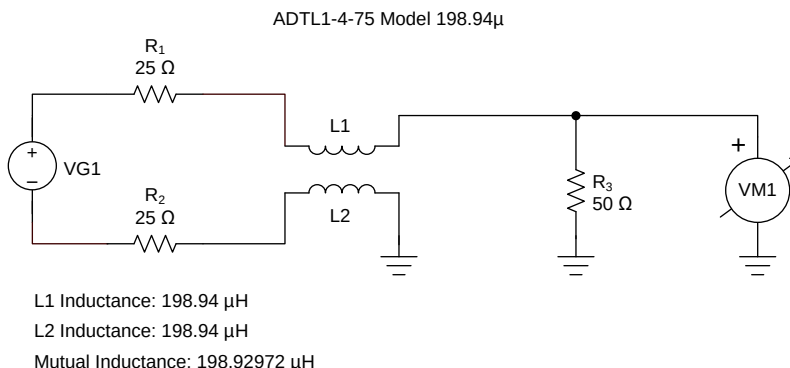
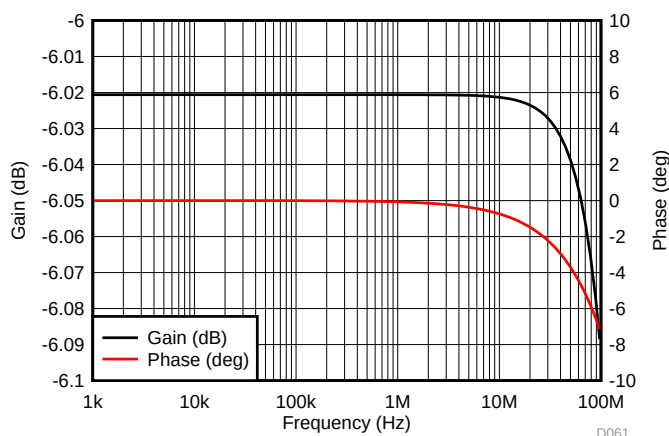

Figure 2. Output Measurement Balun Simulation Circuit in TINA-TI™
Figure 3. Output Measurement Balun Flatness Test
- In the pass band for the output balun, the 50- Ω load of the network analyzer reflects in parallel with the 52.3- Ω shunt termination. These elements combine to show a differential 1-k Ω load at the output pins of the THS4561. The source impedance presented to the balun is a differential 50- Ω source. Figure 2 and Figure 3 show the TINA-TI™ model (available as a TINA-TI™ simulation file) and resulting response flatness for this relatively low-frequency balun providing 0.1-dB flatness through 100 MHz.